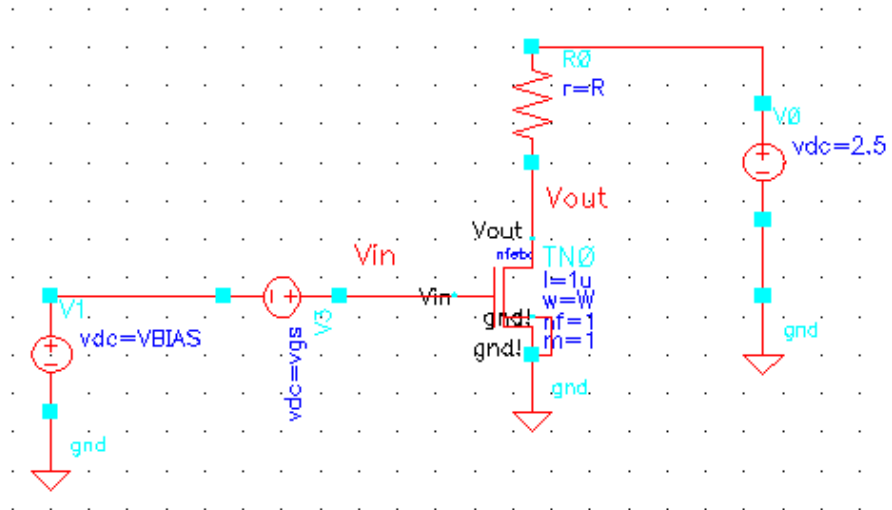

Fig 2. Schematic for Part 2
2) Now, replace the current source load with a resistor. Use an ideal resistor. This is located in the *analogLib* as the cell *res*. Your schematic should now look like *Figure. 2*. Determine the maximum gain for this configuration and the corresponding values of R (resistance), VBIAS, and W (Width). Remember, the transistor must be in saturation, with $V_{dsat} = 0.2 \text{ V}$ and $V_{ds} = V_{dsat} + 200 \text{ mV}$. Again, do the same DC analysis that was done in Part 1. Change the design parameters after simulation if need be. Print out a copy of the DC operating point of the transistor. Find the gain, print the small signal input and output signals, and compare theoretical results to simulated results.